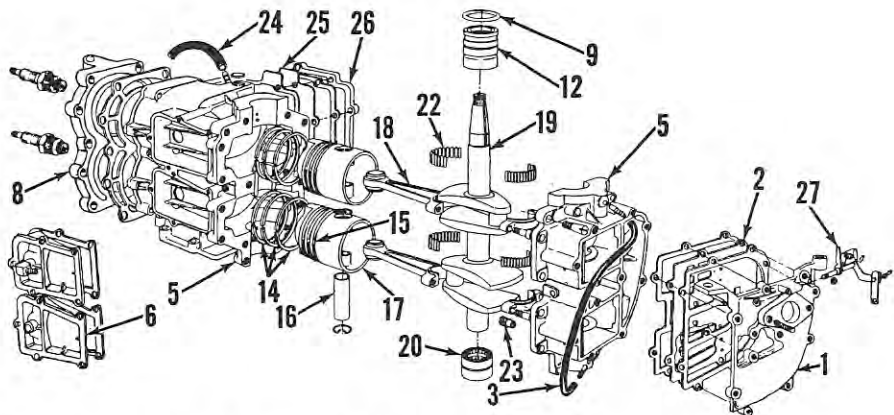

Fig. Mc32 — Exploded view of the 10 horsepower power head assembly.
10 Horsepower Models: Refer to Fig. Mc32. One half of crankcase is integral with the cylinder block. Upper and lower main bearings are of the caged needle roller type. The bronze center main bearing is cast into crankcase halves and is not renewable. To disassemble the removed power head, remove the cylinder head (8), inlet manifold (1), exhaust covers (25 & 26) and transfer port covers (6), then unbolt and remove the crankcase front half.